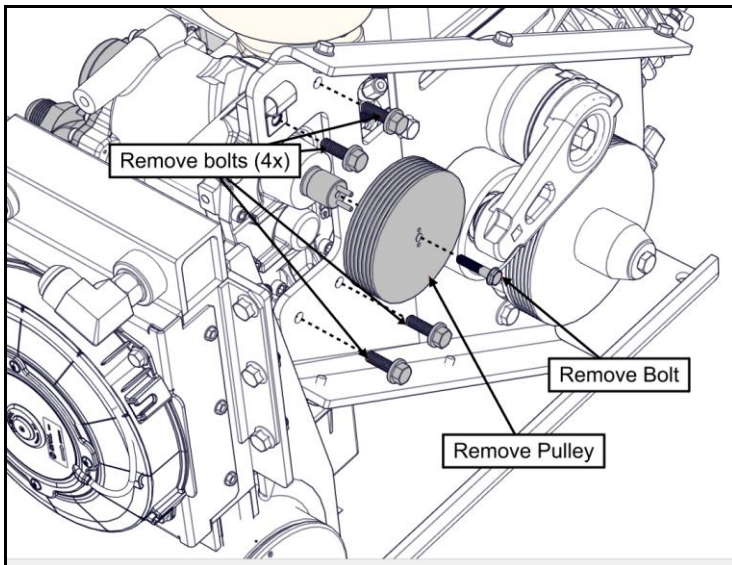

Figure 71 – Compressor front bolts
- 7) Remove center bolt from the compressor pulley and remove the pulley (Figure 71).
8) Remove 4 compressor bolts from the belt guard (Figure 71).